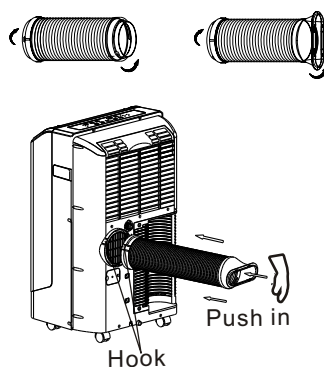

Figure 7b- Attaching Adaptor and Duct
1. Install the window exhaust onto the exhaust hose as shown in Fig.7b. Refer to the previous pages for window kit installation.